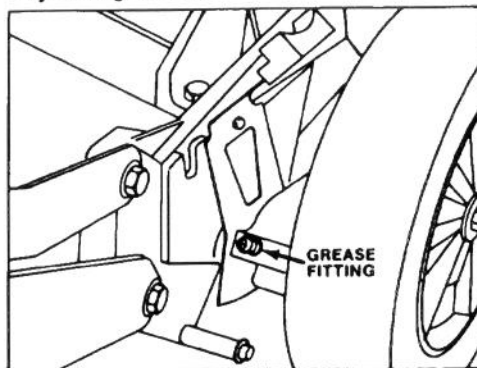

Figure 21
2. Model 20680 only—Move rear wheel height-of-cut levers to "C" setting. Wipe grease fittings with clean rag (Fig. 21). Install grease gun on-to fitting and gently apply 1 pump of #2 Multi-Purpose Lithium Base Grease. Excess pressure may damage seals.